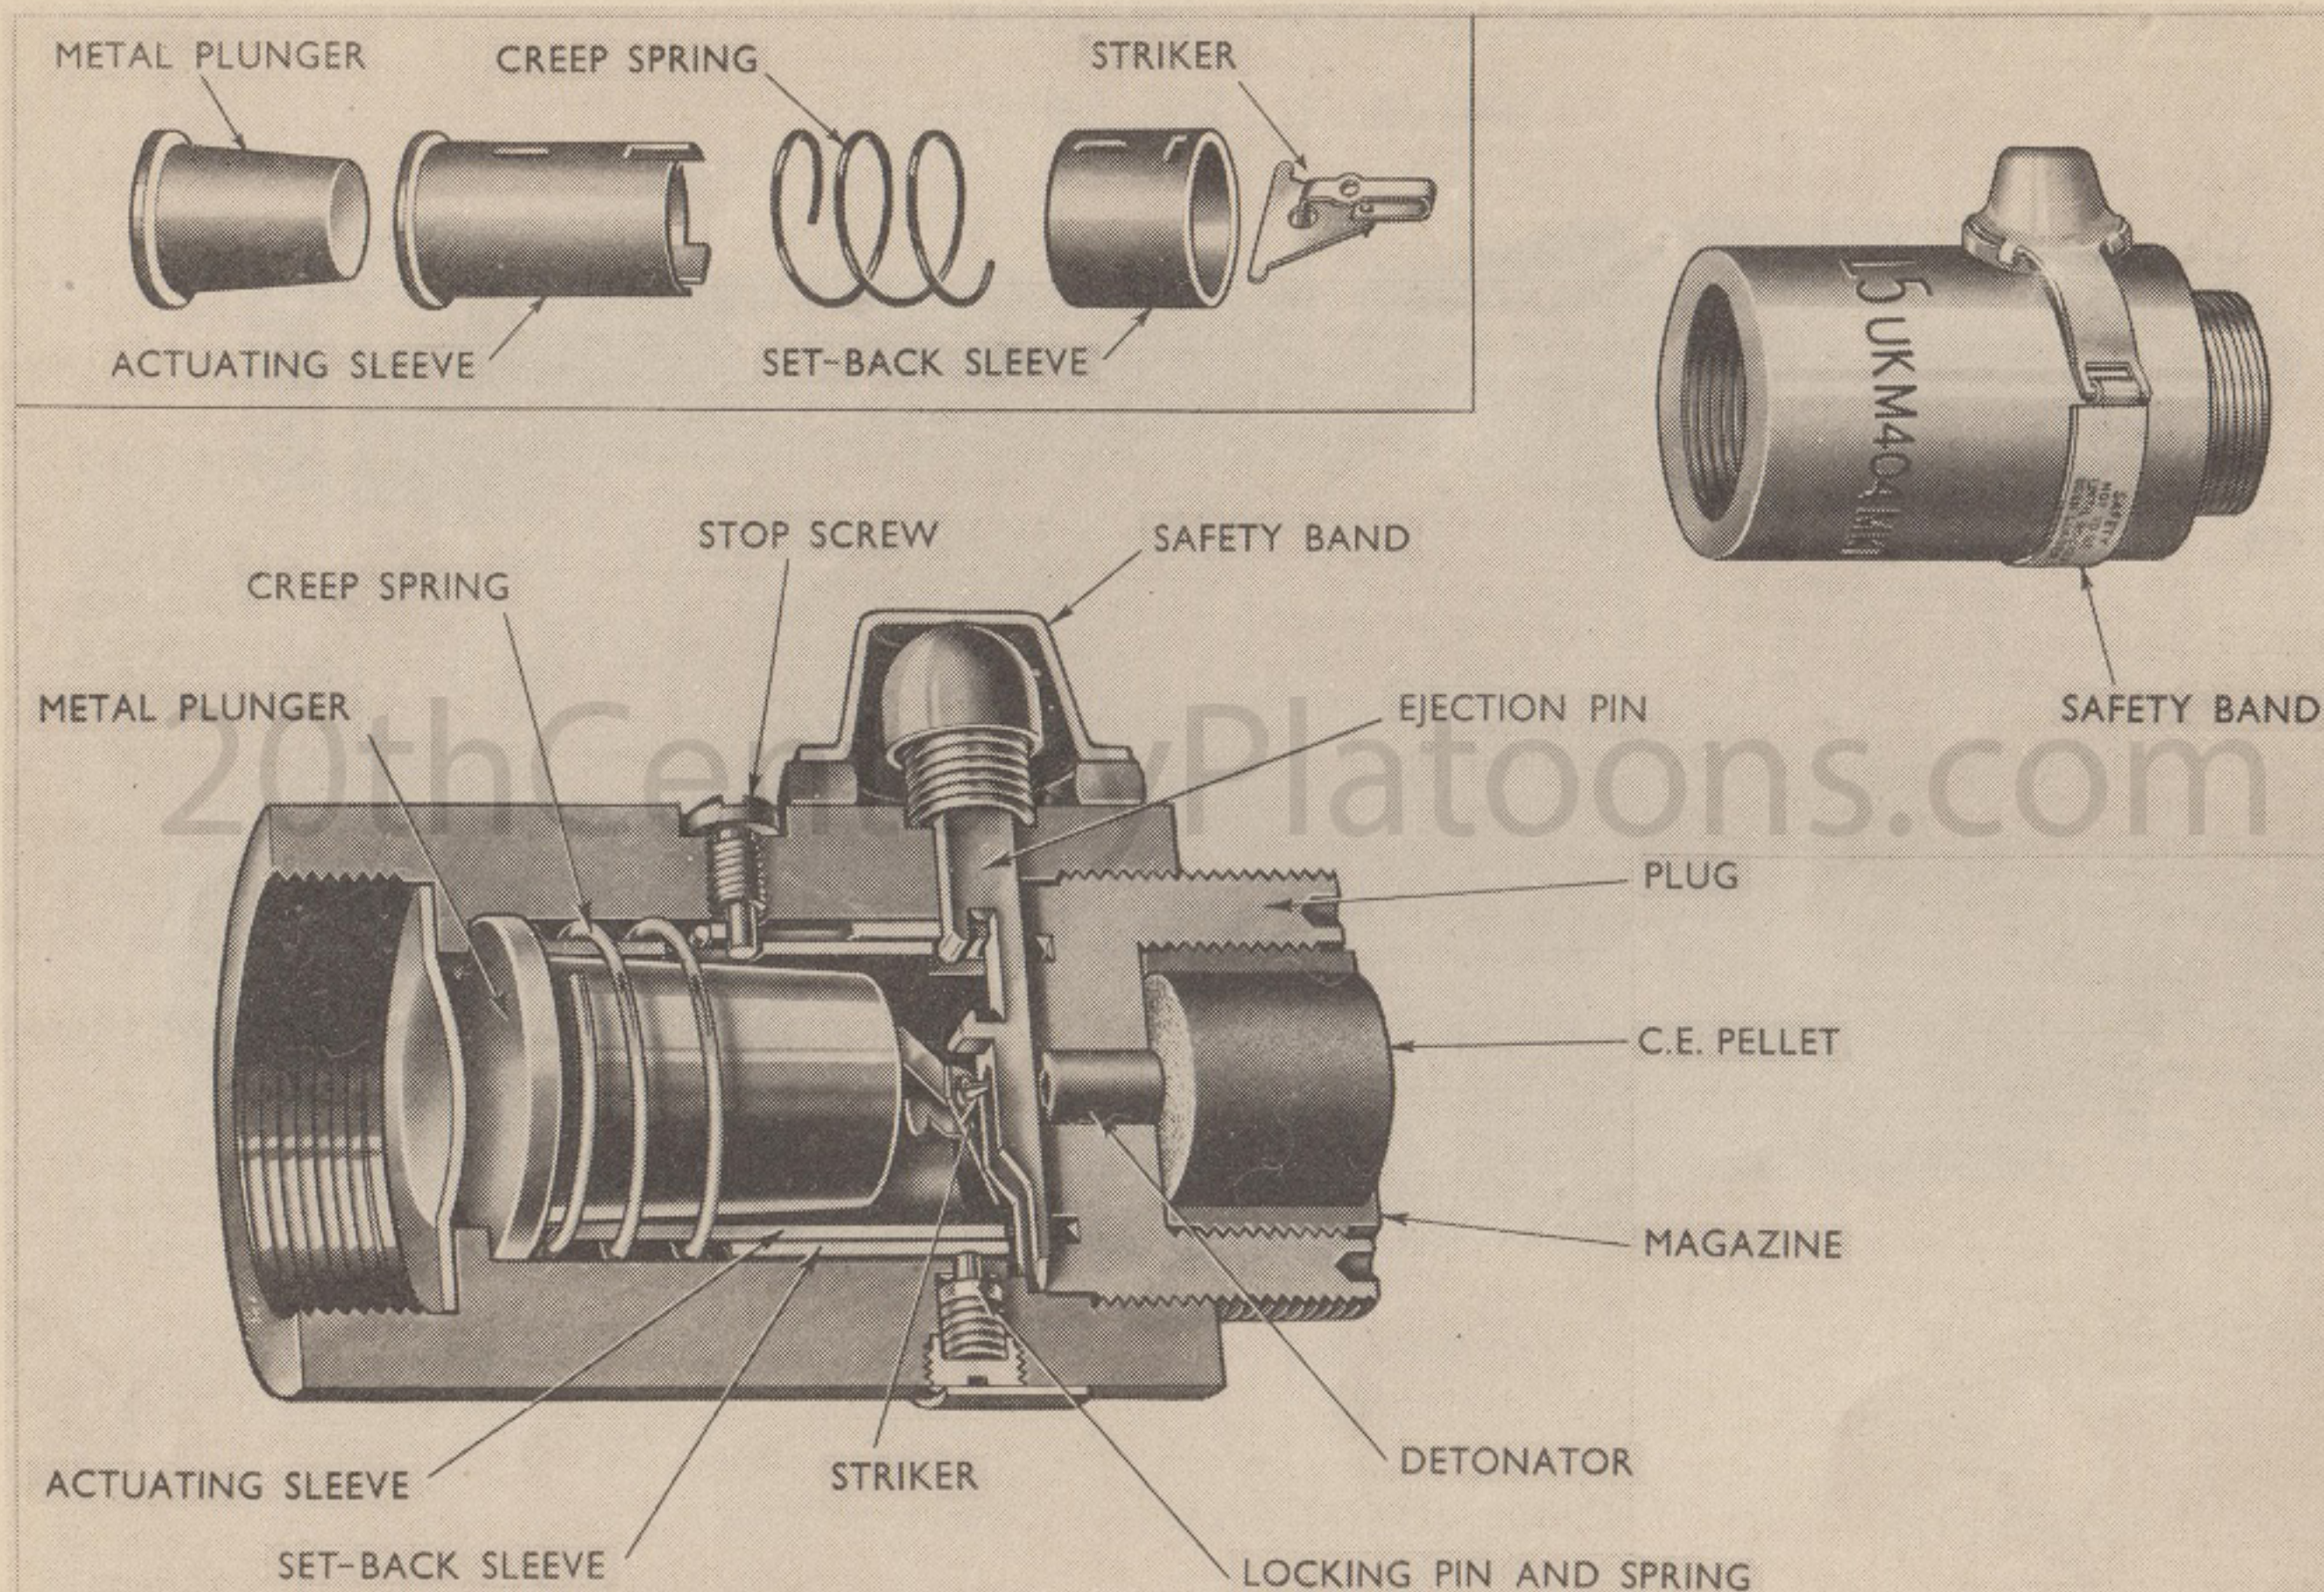

Fig. 16 FUZE, L5. U.K. M 404 Mark I
23.0. The fuze (Fig.16) is a base percussion type, cylindrical in shape, with an external diameter of two inches. The front end is closed by a plug which is threaded externally to take the rocket head and internally the magazine containing a C.E. pellet. The rear of the fuze body is threaded internally to receive a body closing adapter on to which is screwed the rocket motor. Internally the fuze is fitted with a metal plunger, an actuating sleeve, a set back sleeve, creep spring and striker. Passing into the fuze from the outside is an ejection pin, and adjacent to it a stop screw. The side of the fuze opposite to the ejection pin is fitted with a locking pin and spring.